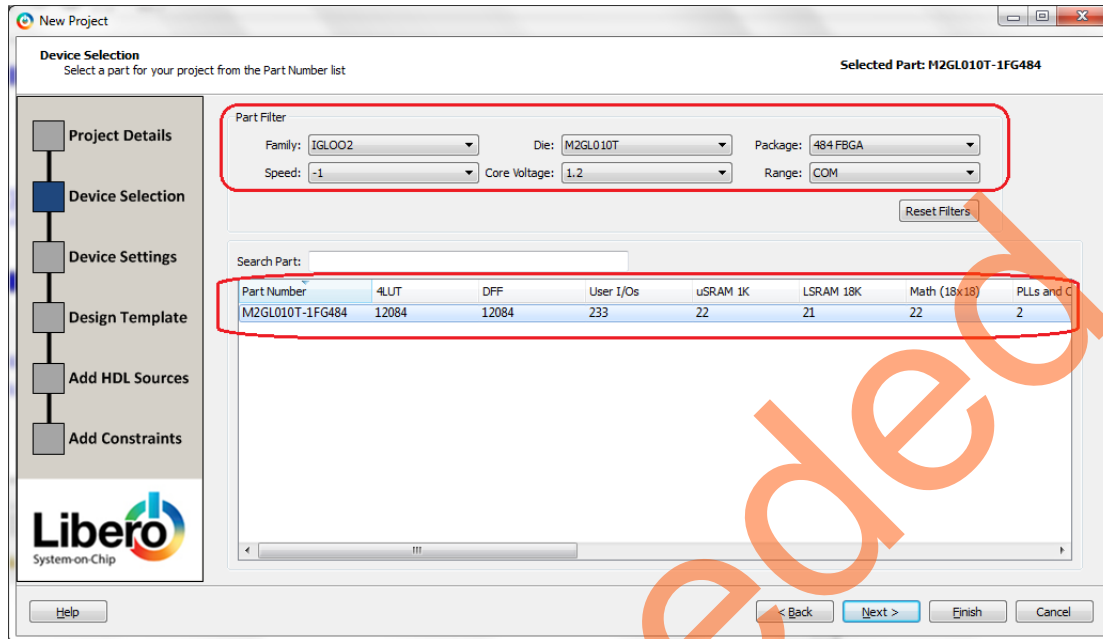

Figure 4 • New Project - Device Selection Page
4. Click **Next**. This opens **New Project - Device Selection** page as shown in Figure 4.
5. Select the following values from the drop-down list (highlighted in Figure 4):
6. Select the filtered device (**M2GL010T-1FG484**) as shown in Figure 4.